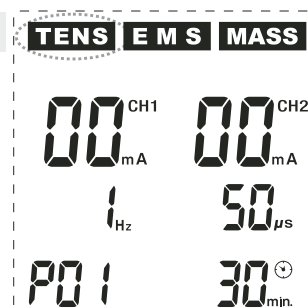

Fig. 23
The settings you have made in the adjustable programmes are stored in the device and can be recalled. If you wish to delete these settings and to reset the programmes to the basic settings, you can proceed as follows: Open the cover of the battery compartment (see also p. 12) and remove one of the four batteries. Press and hold the key ⑨ (**CH2** ⊖) while re-inserting the fourth battery. The blue display lighting switches on and shows an empty display. After several seconds, two acoustic signals are generated and all adjustable programmes are reset to the basic factory settings according to table (p. 22 - 26). In the basic mode, the programme 1 (**P01**) of the **TENS** mode is now shown on the display (**TENS** flashes - see Fig. 23).